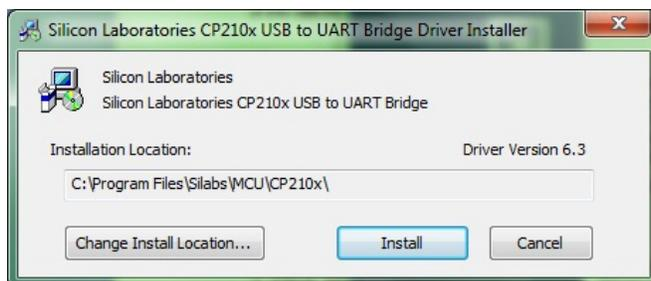

Figure 1 - USB Common Driver Install
7. Click **Install** to continue. Once the installation is complete, the **Installation Successful** message displays (see Figure 1).